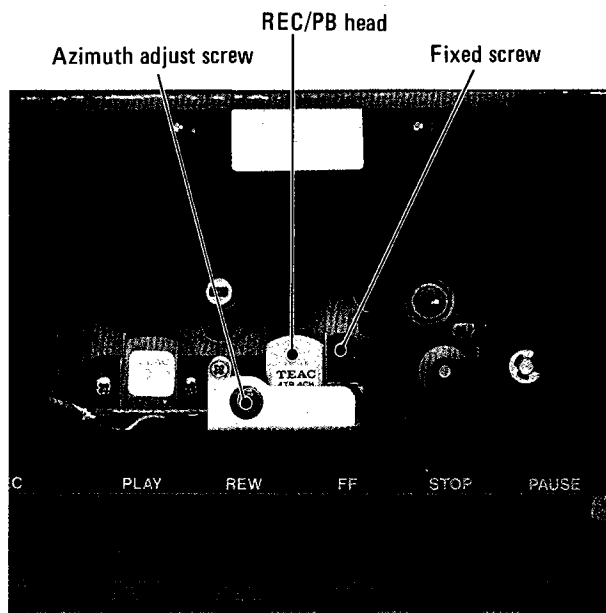

Fig. 8-4 Head azimuth alignment
1. When remounting the REC/PLAY head, be sure not to tighten the head fixed screw (Fig. 8-4) too hard. Turn the screw by approx. 45° (with tightening torque of 2 kg-cm after the screw has started to work).
Fine adjustment of the record/playback head should be made after the tape travel check has been completed. Before proceeding the adjustment, remove the head cover mounted on the Top cover (F). (Fig. 8-4)